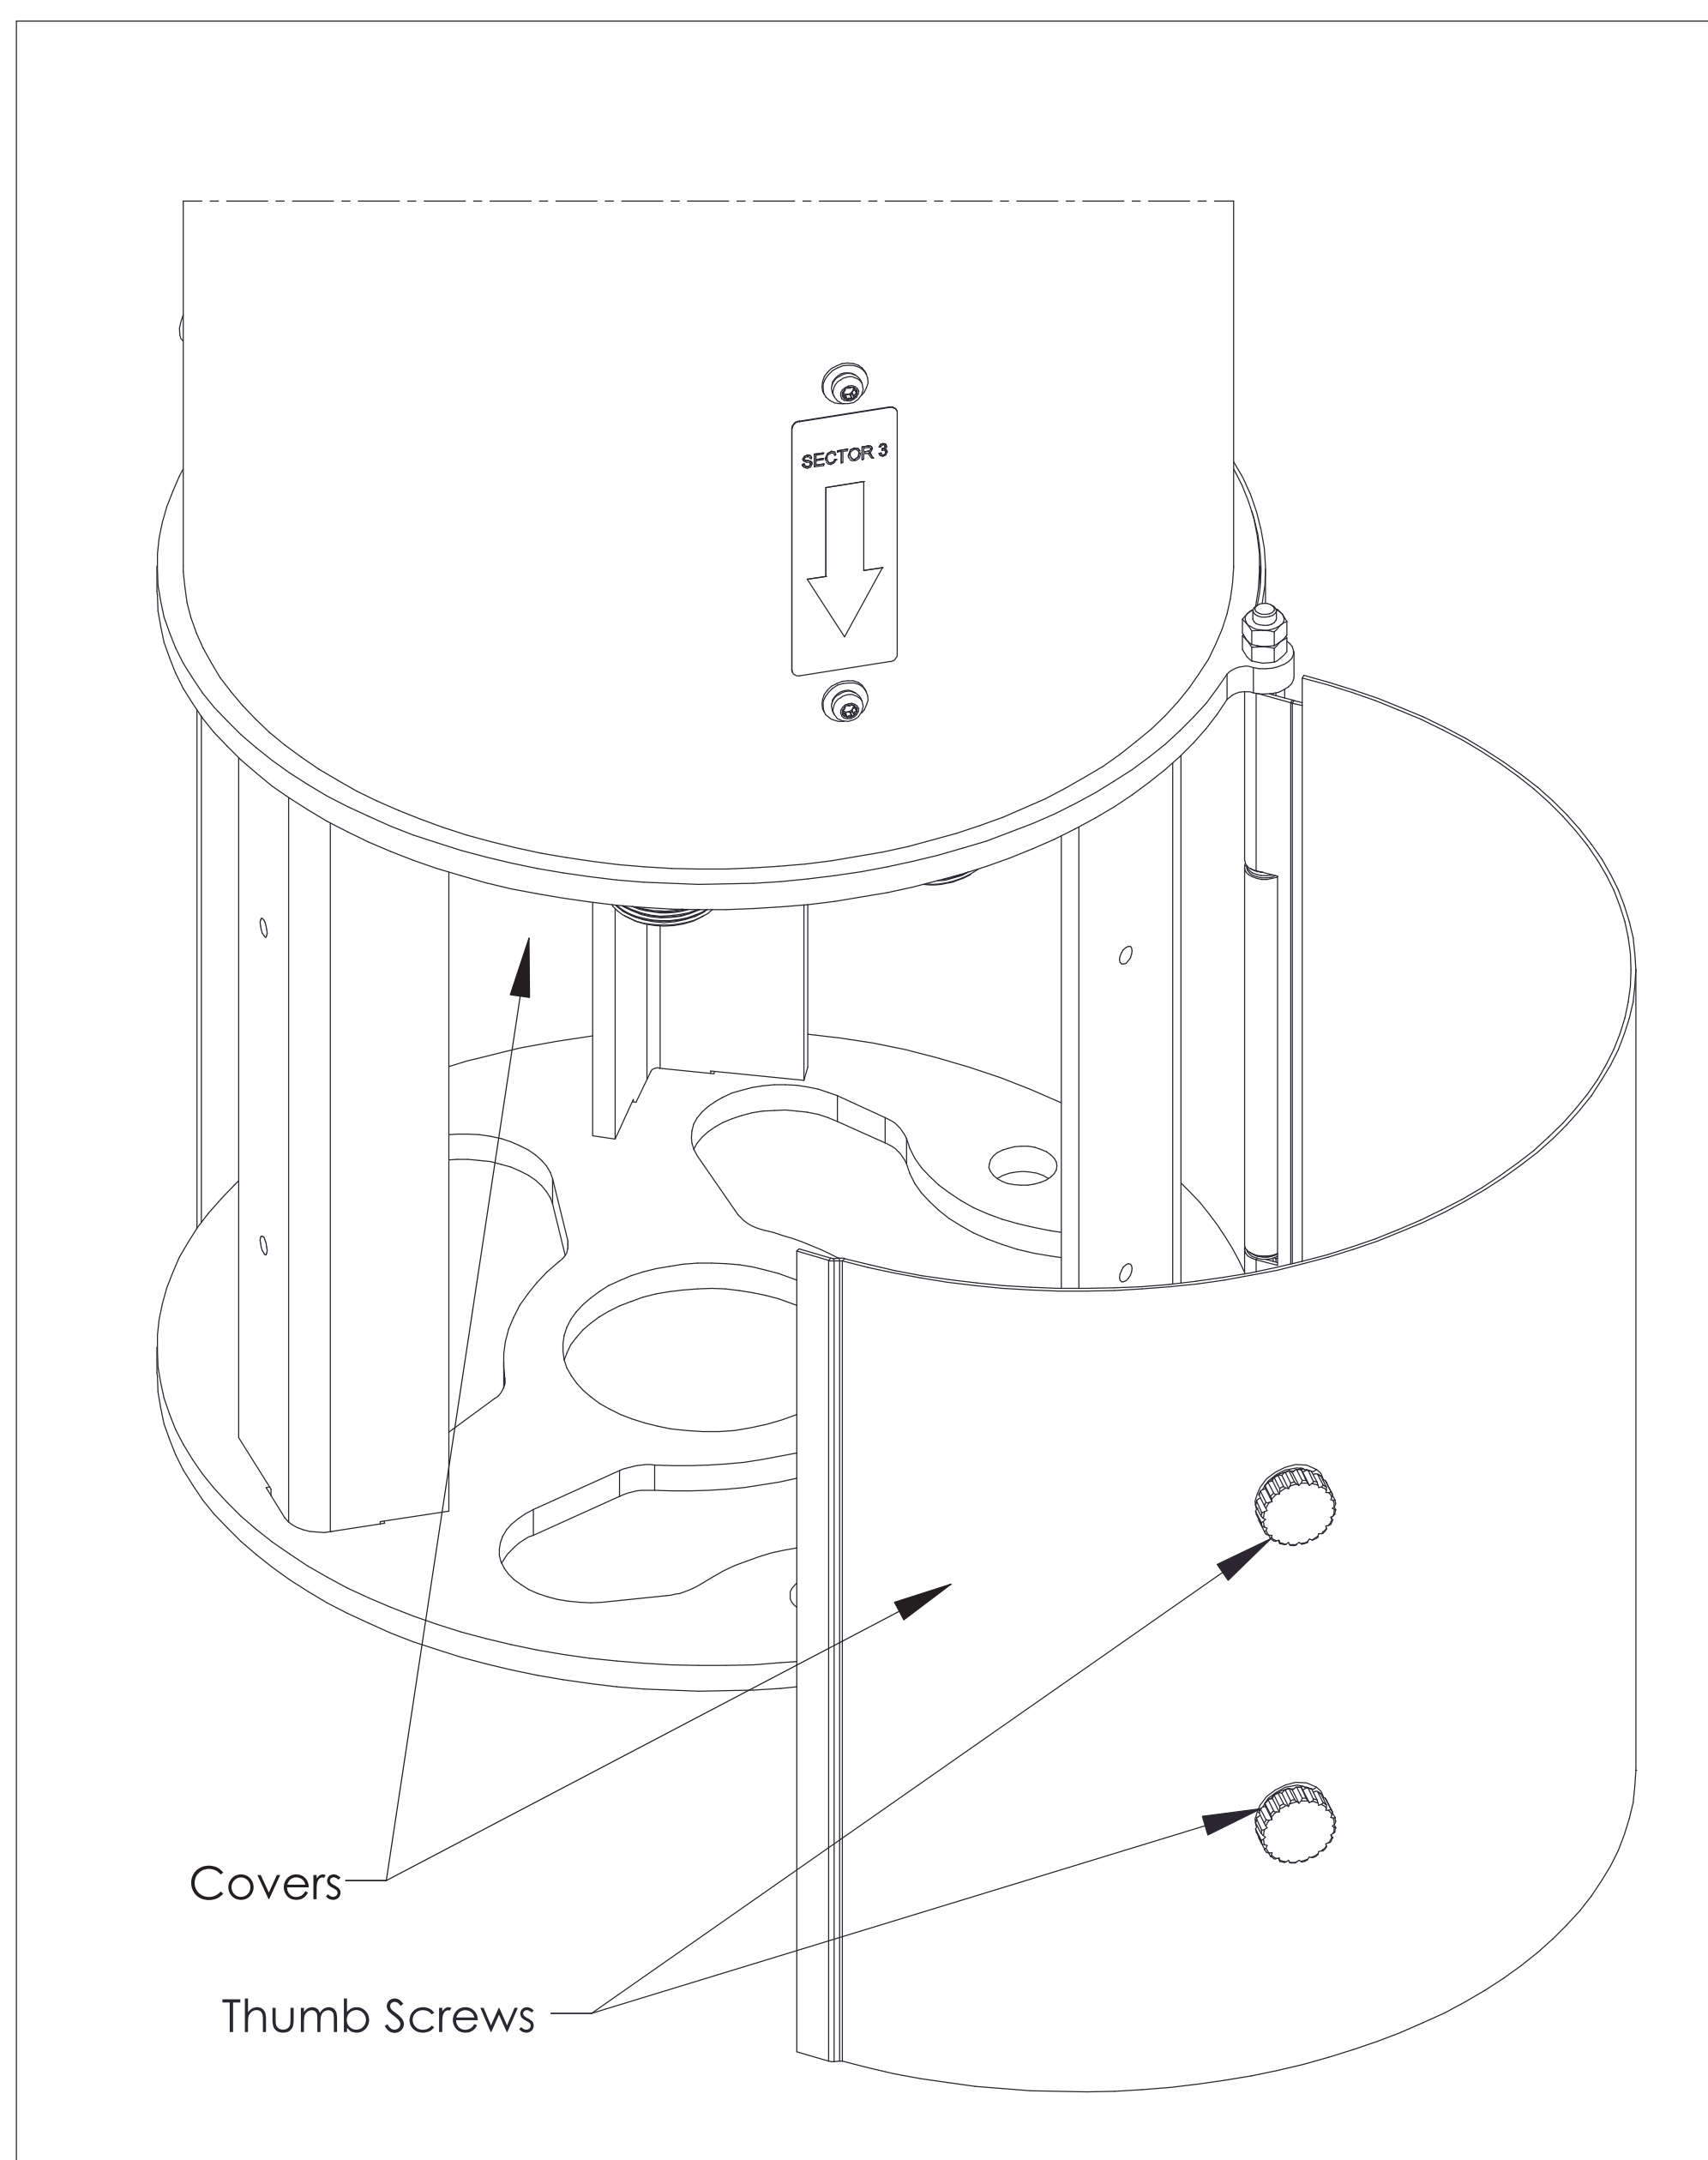

Figure 6. Covers with attached screws
**When attaching the covers, make sure the screws are attached to the covers (Figure 6), then install the thumb screws to the holes, tighten the screws by hand. see Figure 7.**